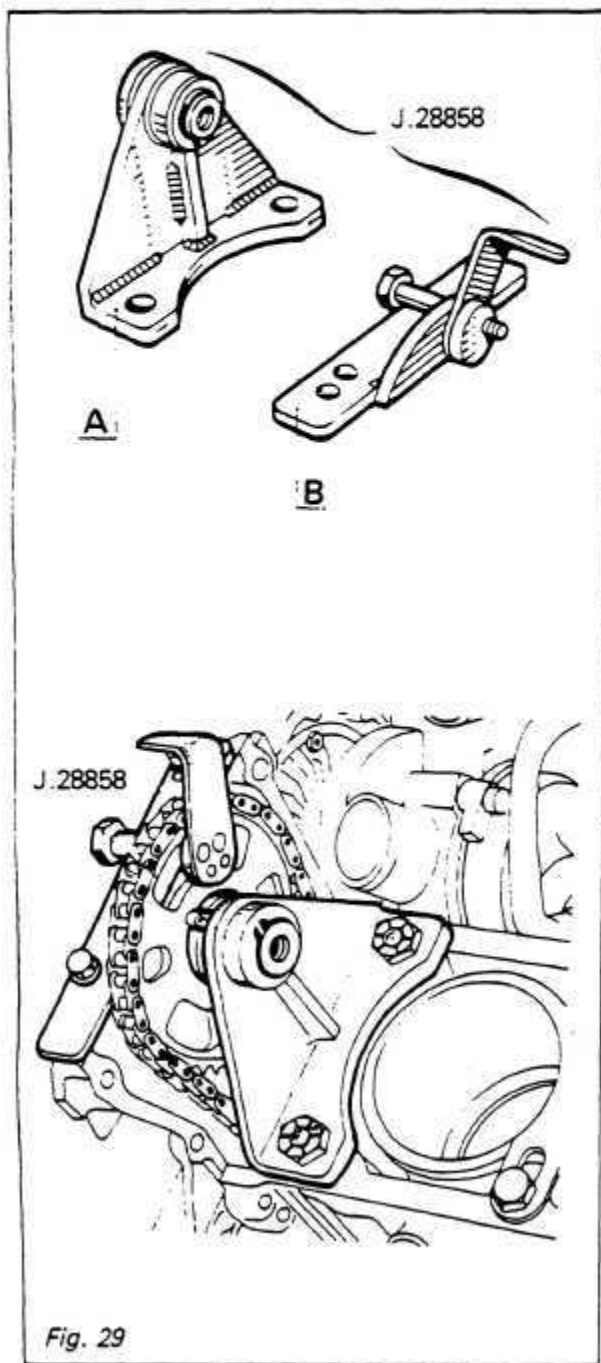

Fig. 29
If only one cylinder head is to be removed, the operation may be performed without removing the timing cover using camshaft sprocket support tool (B) No. J.28858 to support the timing sprocket and maintain tension on timing chain. (Fig. 29)